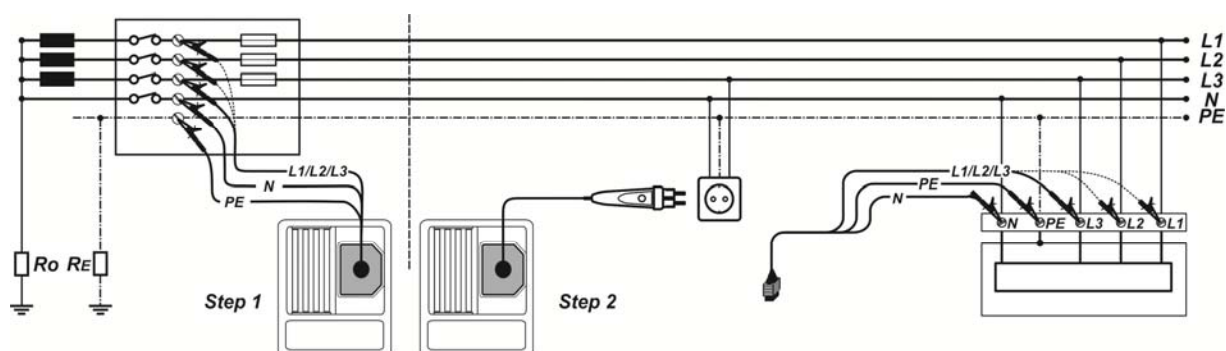

Figure 5.30: Phase-neutral or phase-phase voltage drop measurement – connection of plug commander and 3-wire test lead
- **Connect** the test leads to the origin of electrical installation (see Figure 5.30).
- **Connect** the test leads to the tested points (see Figure 5.30).